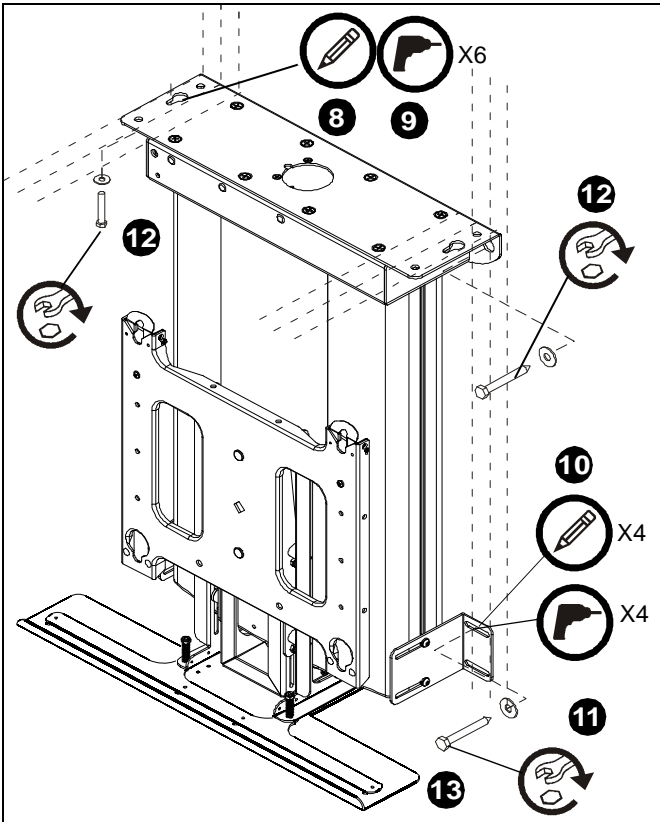

Figure 16
5. Loosen four screws securing side mounting brackets to mount and adjust side mounting brackets until properly positioned against studs if applicable. (See figure 16)
7. While maintaining dimensions referenced in figure 15, mark base plate mounting hole locations. (See figure 16)
9. Mark four side bracket mounting hole locations if applicable. (See figure 16)
11. Secure base plate to structure using either two (wall mount) or six (ceiling mount) 5/16" flat washers and two or six six 5/16" x 2 1/2" lag screws. (See figure 16)
12. Secure side brackets, if applicable, to studs using four 5/16" flat washers and four 5/16" x 2 1/2" lag screws. (See figure 16)